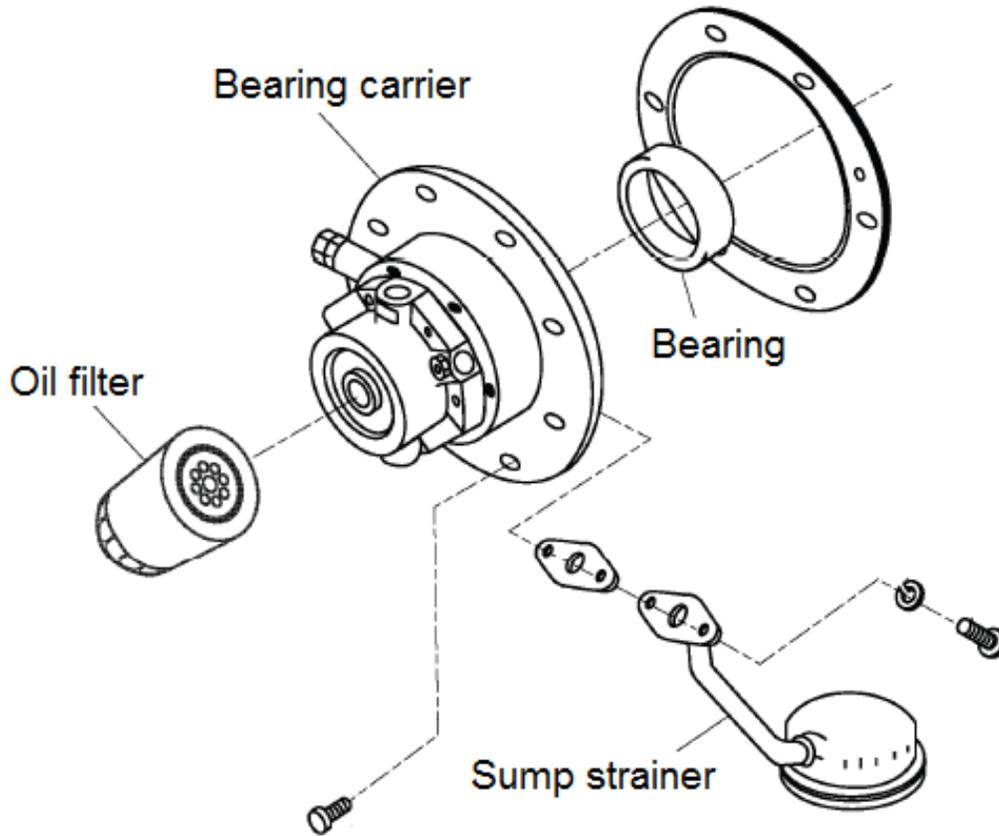

Figure 551-88L-3051\_10
(2) Actions to take.
- (d) Remove bearing carrier group, clean sump strainer and change oil, (refer to Figure 551-88L-3051\_10).